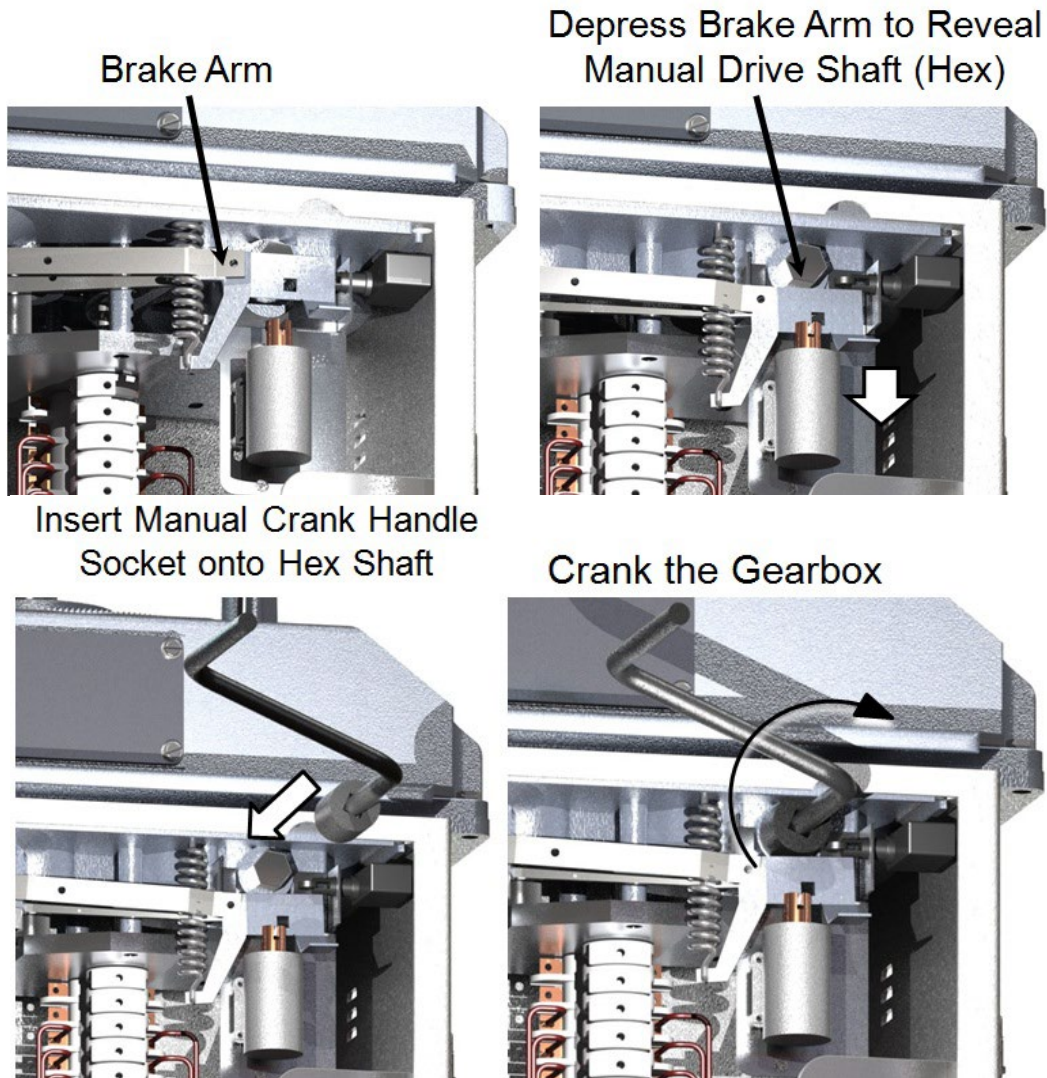

Figure 4 - Manual Operation
2. Perform all trail operations manually. Refer to Figure 4.